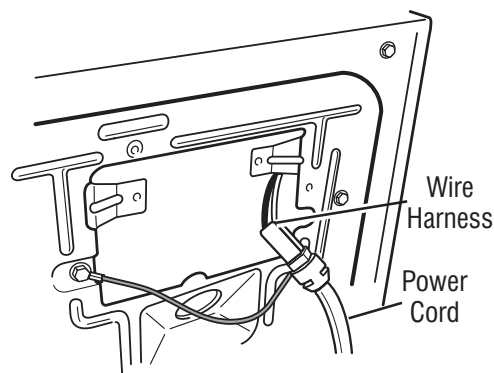
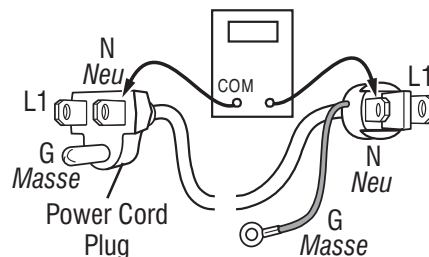

Figure 5 - Power cord-to-wire harness connection for gas dryer.
Figure 6 - Power cord terminals, gas dryer.
3. Check that the power cord is firmly connected to the dryer's wire harness. See figure 5.
5. With an ohmmeter, check for continuity between the neutral (N) terminal of the plug and P8-3 (white wire) on the ACU. The left-hand side of figure 6 shows the position of the neutral terminal (N) on the power cord plug. Also see figure 2, page 12.
- If there is no continuity, disconnect the white wire of the main harness from the power cord at the location illustrated in figure 5. Test the continuity of the power cord neutral wire as illustrated in figure 6. If an open circuit is found, replace the power cord. Otherwise, go to step 6.
- If there is no continuity, check the continuity of the power cord in a similar way to that illustrated in figure 6, but for power cord's L1 wire.